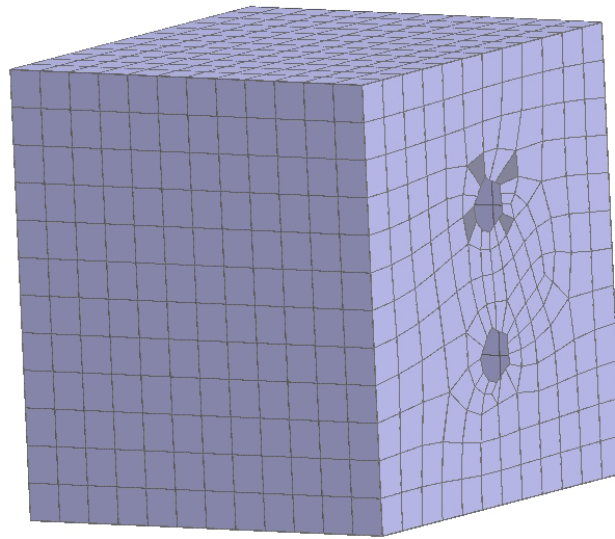

Figure A.11 Select elements for creating a seam.
- Left-click on the elements around the edge of a hole while holding the *shift-key*. Make sure to select elements with nodes on the hole edge as shown in Figure A.11.